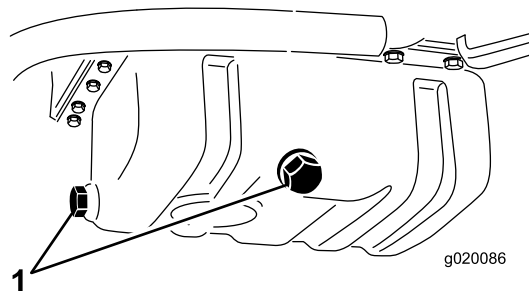

Figure 52
1. Remove either drain plug (Figure 52) and let the oil flow into a drain pan. When the oil stops flowing, install the drain plug.